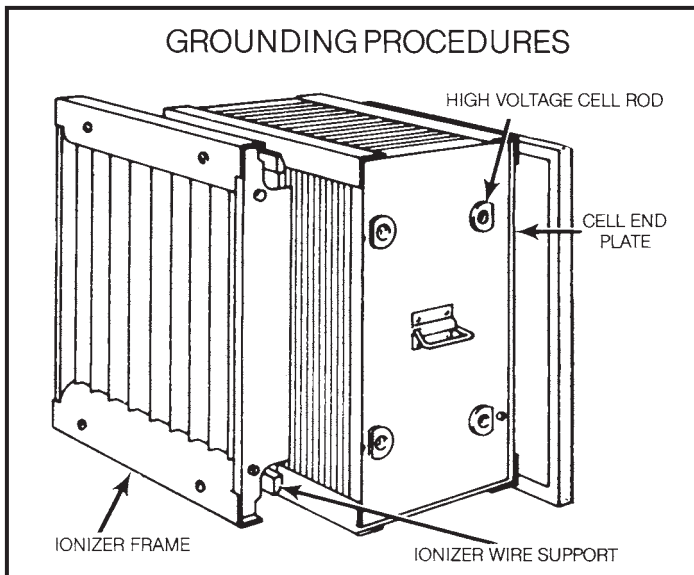

FIGURE 5
- For added safety, manually discharge the ionizer and collection cell/unicell in the following manner. Place the blade of a common screwdriver (with insulated handle) across the ionizer wire support and then the ionizer frame. Next, place the screwdriver blade across the cell end plate and then across a cell "hot" plate. This will remove any residual charge that may not have bled off. Refer to Figure 5.